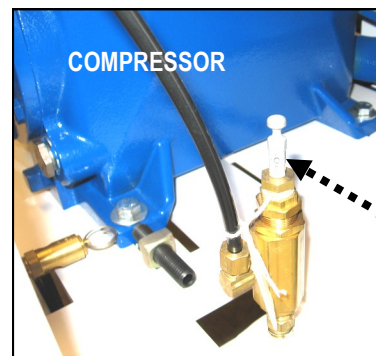

Fig. 4 Compressor Pilot Valve
6. Close drain valve and check that the compressor pilot valve is in the DOWN position. (See Fig. 4)